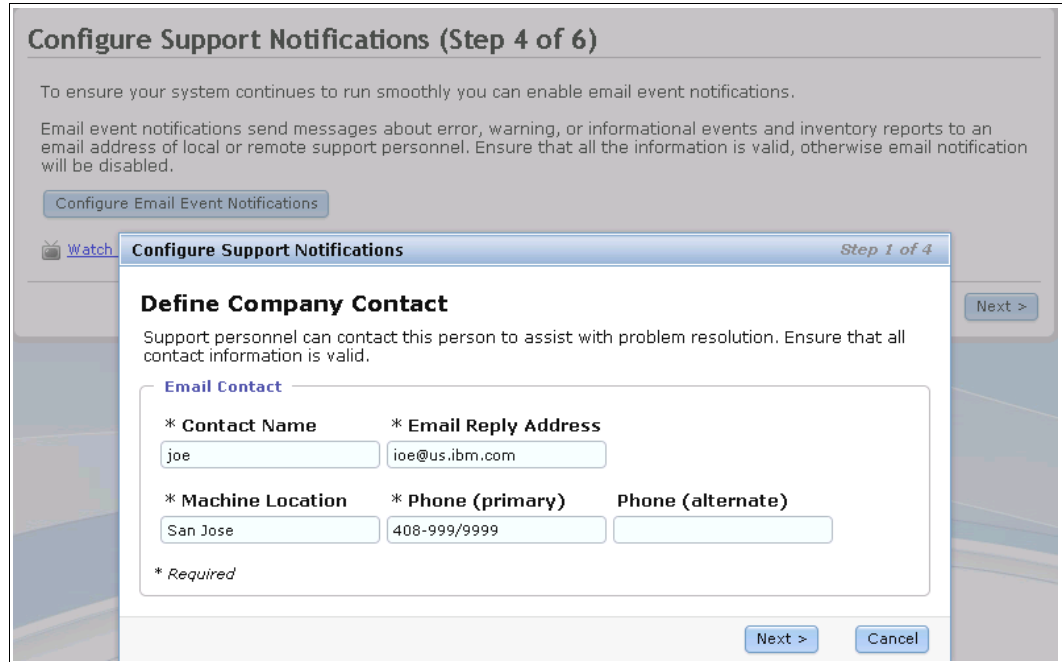

Figure 2-18 Email and event configuration - Setting contact information
2. Define the sending email account (Figure 2-18).